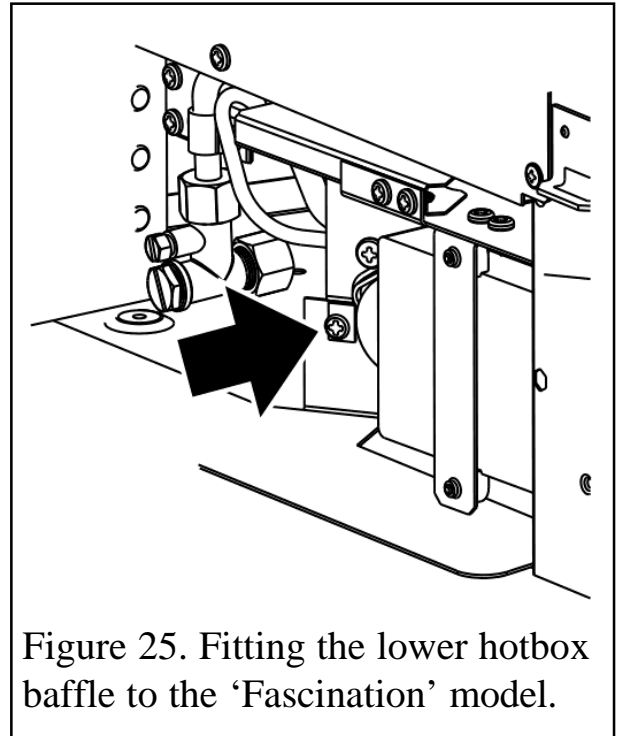

Figure 25. Fitting the lower hotbox baffle to the 'Fascination' model.
1. Locate the baffle behind the control knob bracket as in figure 25.